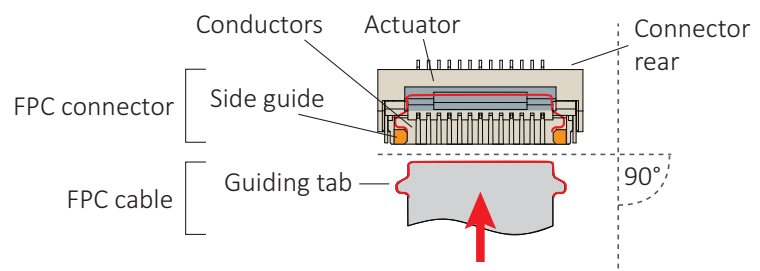
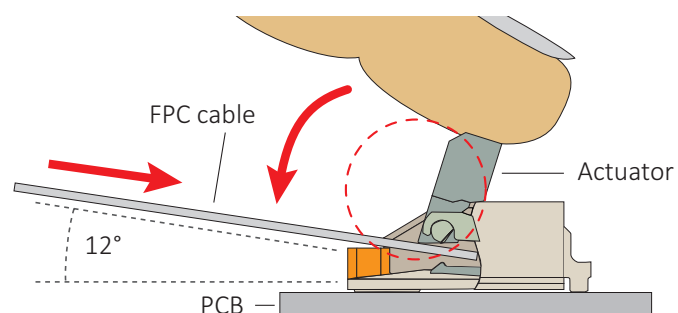

Figure 9: FPC cable and FPC connector
Figure 10: Engaging the FPC cable in the FPC connector
2. **Ensuring proper cable direction between host and camera**, take the FPC cable with conductors facing the FPC connector conductors (see Figure 9).
At a horizontal angle of 90° to the connector's rear (see Figure 9) and at a vertical angle of 12° to the PCB (see Figure 10), slowly insert the FPC cable into the actuator...
4. ...until cable guiding tabs are caught between connector rear and side guides (see Figure 9). Pull the cable slightly to ensure guiding tabs are properly engaged.
5. Holding the FPC cable in position, flap down the actuator to closed position (see Figure 10).